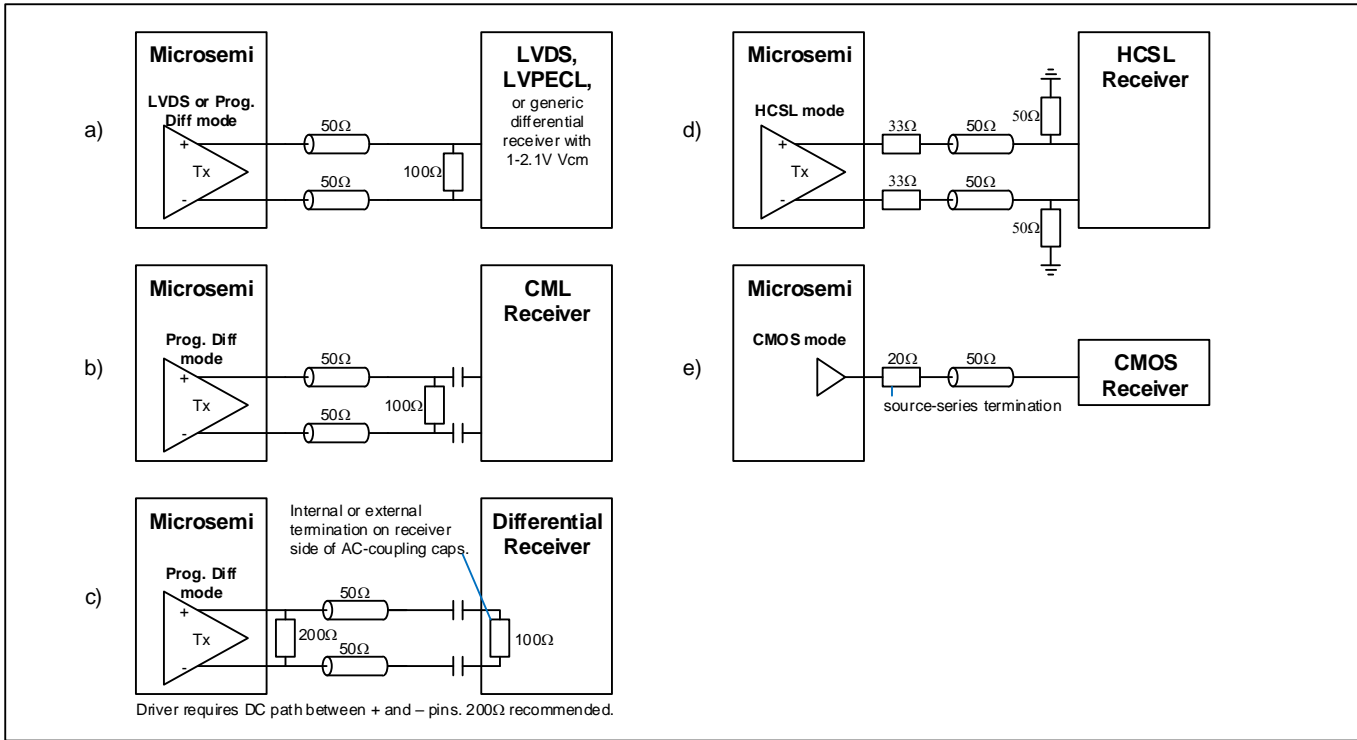

Figure 17 - Example External Components for Output Signals
**Note 1:** OCxCR2.OCsF=0001 (LVDS). Output must have 100Ω DC path between OUTxP and OUTxN to meet these  $V_{OD}$  specs. See Figure 17 parts a) and b) for examples where this DC path is a 100Ω termination resistor at the receiver.
**Note 1:** OCxCR2.OCSF=0010, OCxDIFF.VCM=1100, OCxDIFF.VOD=0101. Output must have 100Ω DC path between OUTxP and OUTxN to meet these  $V_{\text{OD}}$  specs. See Figure 17 parts a) and b) for examples where this DC path is a 100Ω termination resistor at the receiver.
Figure 17 part c) covers the case where an existing receiver has AC coupling caps followed by an internal or external 100Ω termination resistor. The driver requires a DC path between its POS and NEG pins even in this case. A 200Ω resistor is recommended. Since this arrangement attenuates the signal by one third, The `OCxDIFF.VOD` field should be set 50% higher to compensate.